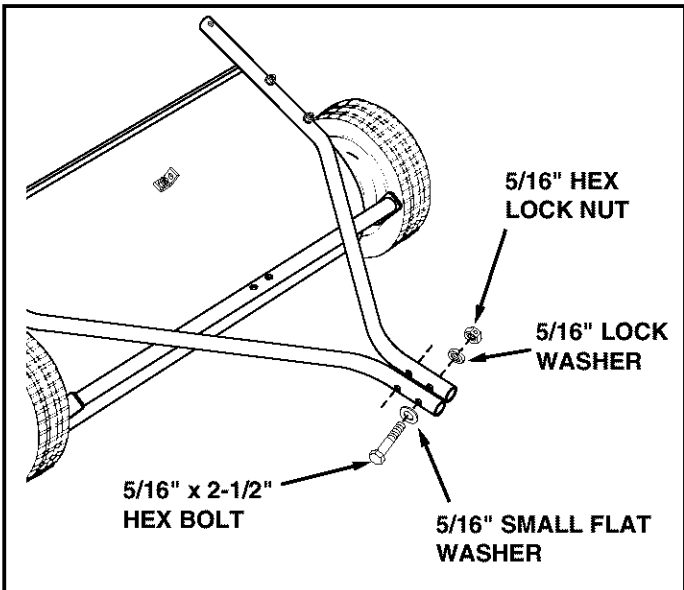

FIGURE 3
- Fasten the hitch tubes together using two 5/16" x 2-1/2" hex bolts, 5/16" small flat washers, 5/16" lock washers and 5/16" hex lock nuts. **Do not tighten yet.** See figure 3.